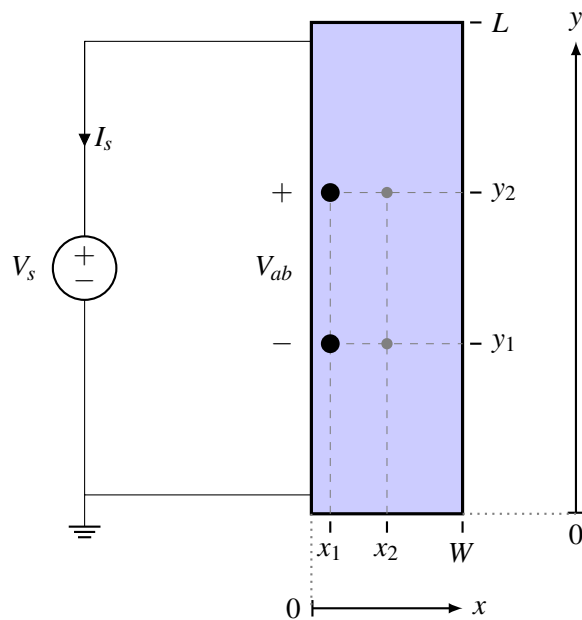

Figure 4: Top view of resistive touchscreen showing voltage V_{ab} .
- (c) Assume V_{ab} is the voltage measured between the nodes represented by touchscreen coordinates (x_1, y_1) and coordinates (x_1, y_2) , as shown in **Figure 4**. Calculate the absolute value of V_{ab} . As with the previous part, you should first draw the circuit diagram representing Figure 4, which includes V_{ab} . Calculate all resistor values in the circuit. *Hint: Try representing the segment of the touchscreen between these two coordinates as a separate resistor itself.*
- (d) Calculate (the absolute value of) the voltage between the nodes represented by touchscreen coordinates (x_1, y_1) and coordinates (x_2, y_1) in **Figure 4**.
- (e) Calculate (the absolute value of) the voltage between the nodes represented by touchscreen coordinates (x_1, y_1) and coordinates (x_2, y_2) in **Figure 4**.